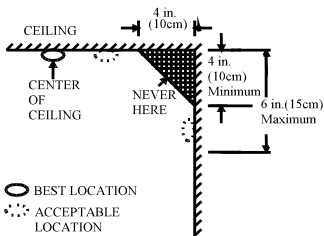
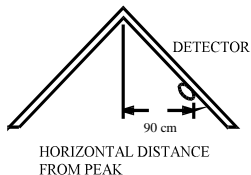

Figure 3: Recommendations for best and acceptable installation locations for installing smoke & heat detectors.
Figure 4: Recommended installation location for smoke & heat detectors in rooms with sloped ceilings or gables (slope >20 degrees).
- Install smoke & heat detectors as close as possible to the center of the ceiling. If it is not practical, install the detector no closer than 10cm to walls or corners (see *Figure 3*).
- If installing on the ceiling is not possible and state and local authorities allow the installation of the detectors on walls, assemble them on walls at 10cm – 15cm from the ceiling (see *Figure 3*).
- If your home has a sloped ceiling or gables, try to install the detectors 90cm from the highest point of the ceiling, measuring horizontally (see *Figure 4*).
- In areas with still air, such as under pointed roofs or in corners between walls and ceiling. Still air can prevent smoke from reaching the detector (*see Figure 3 and Figure 4 for recommended installation locations*).